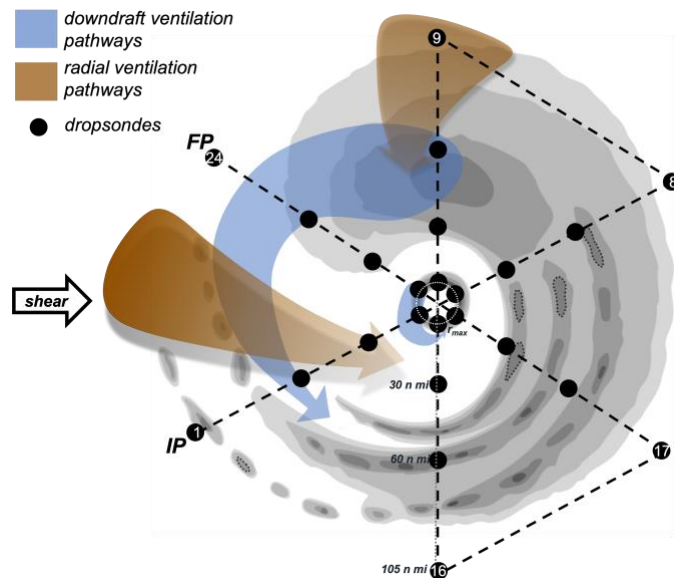

Fig. 2. P-3 Pattern #2 (butterfly) for a TC in westerly shear.
Pattern: Butterfly pattern (Fig. 2), oriented such that the passes are aligned relative to the shear (e.g., upshear-right to downshear-left, left-of-shear to right-of-shear, and downshear-right to upshear-left) and centered on the low-level center. Alternatively, passes can be oriented relative to the vortex tilt. The initial point (IP) and final point (FP) are arbitrary.